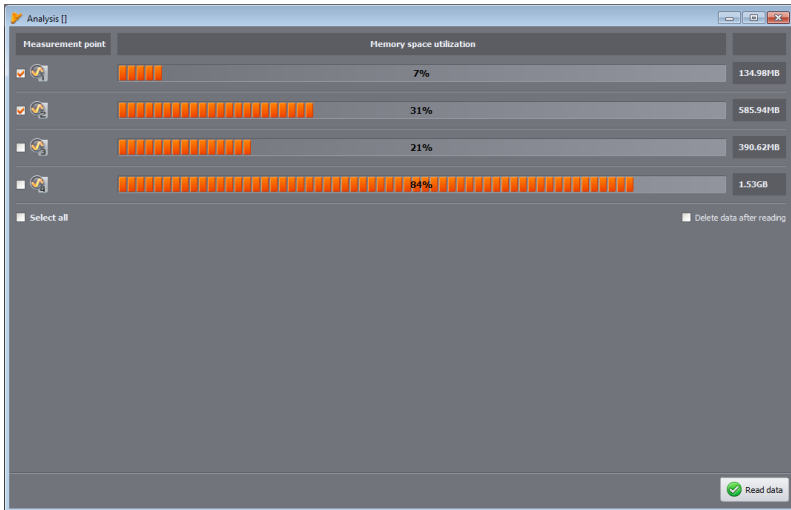

Fig. 54. Selecting data for read-out.
After correct connecting the analyzer to a PC, a window is displayed - as shown in Fig. 54 and data may be selected for downloading and further analysis. To do this, select the measurement configurations from which you want to download the data. On the right side of the bar representing the amount of stored data, the actual amount of data is displayed. To start downloading data from the selected measuring configuration, click **READ DATA** button.
- Clicking **LIST** button returns the user (after confirmation) to the window with analyzer data read-out (Fig. 54). If downloaded data is not saved until this moment, it will be lost.